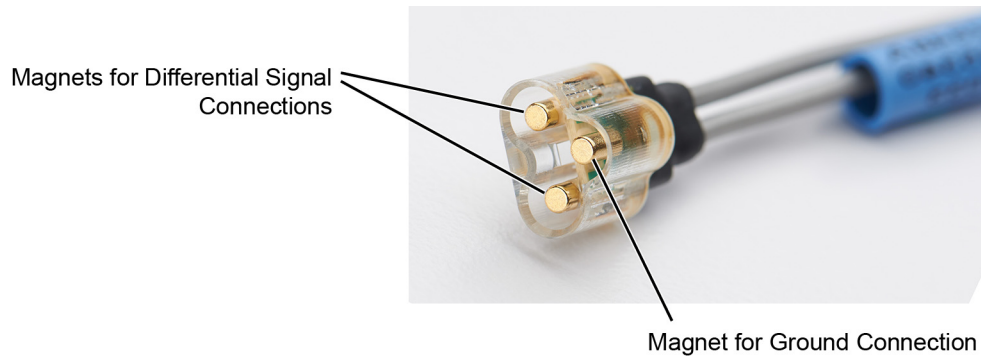

Figure 19 Magnet Connections in Probe Head
- Easy-to-make secure magnetic mechanical connection between probe head and QuickTip as shown in Figure 19. No latch lever is used!